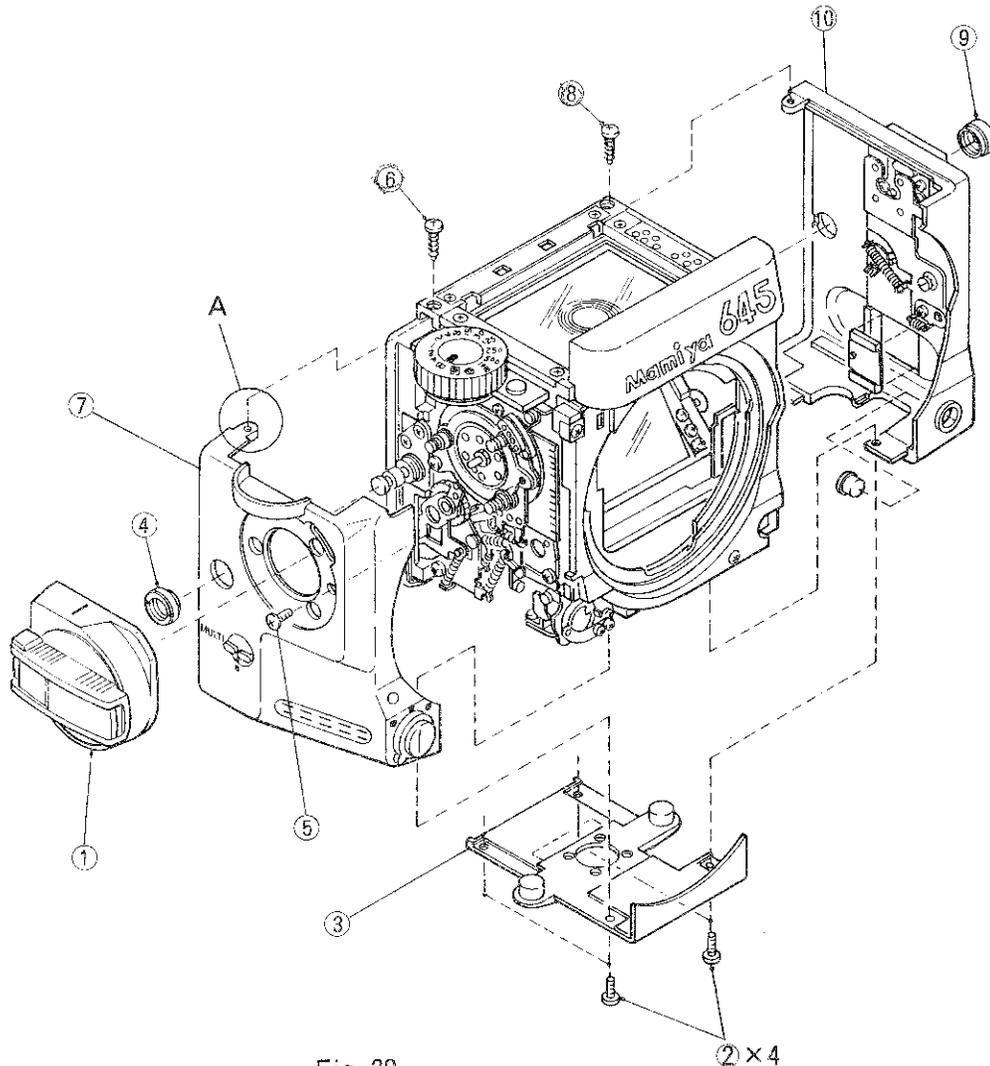

Fig. 29
1. When removing neck strap lug nuts (4), (9), always use SLA-neck strap lug nut driver (Tool No. SLA01). (Fig. 29)
1. Remove the right-side plate. Refer to Fig. 29.